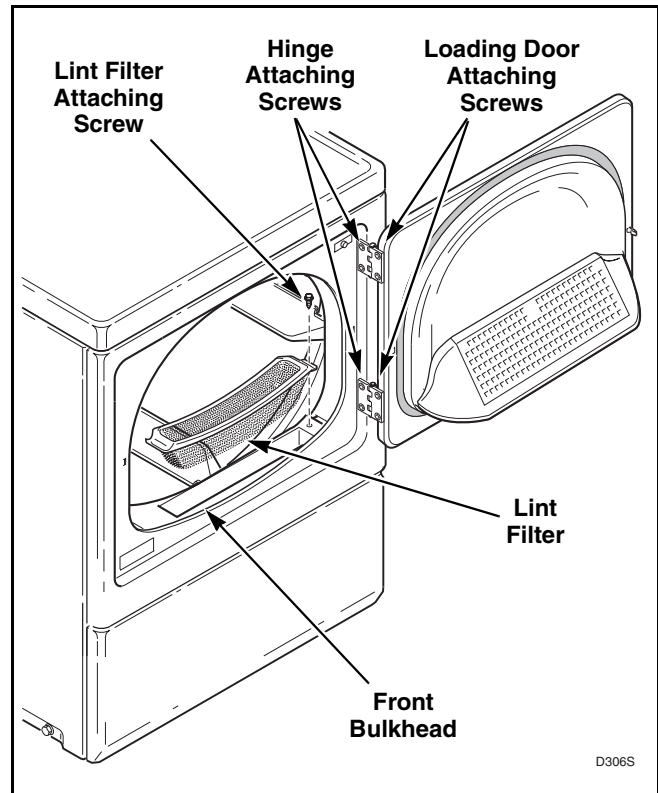

Figure 12
- a. Open loading door and remove screw from end of lint filter. Refer to *Figure 12*.
- b. Remove screws holding loading door to hinges. Refer to *Figure 12*.
- Remove four screws holding door assembly to hinges. Refer to *Figure 12*.